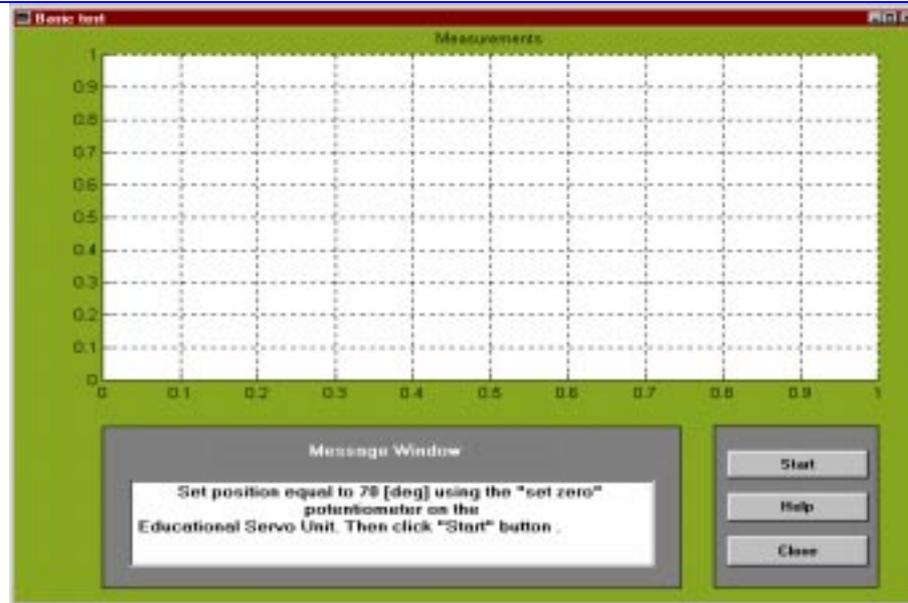

Figure 3-2: *Basic test* window
- double click the *Basic test* button. The following window (Figure 3-2) appears: